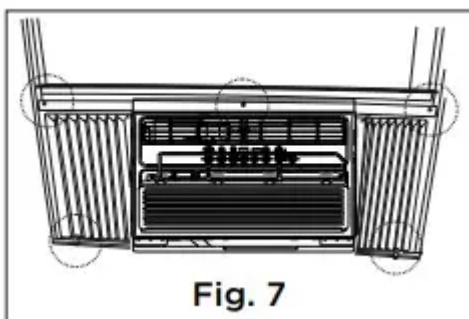

Fig. 7
5. Drive 3/4" (19mm) or 1/2" (12.7mm) locking screws through frame holes into window sash (Fig. 7).